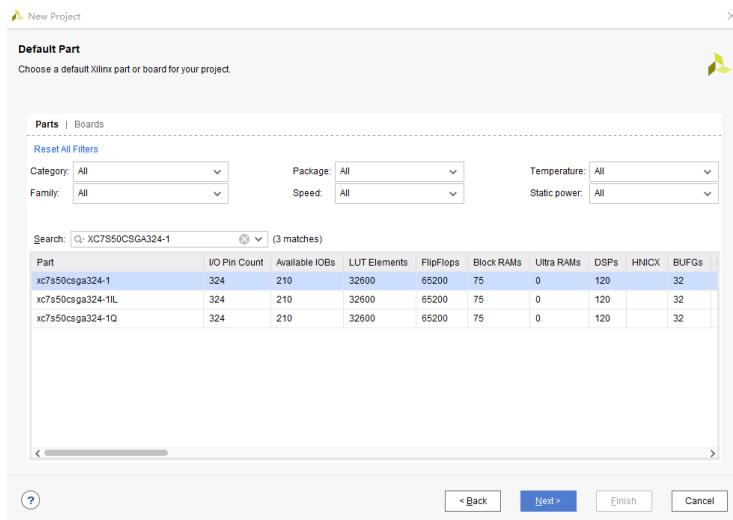

Figure 4 - Selecting the Correct Part
- A window in Figure 4 will appear, search, and select **XC7S50CSGA324-1**, click **Next**.